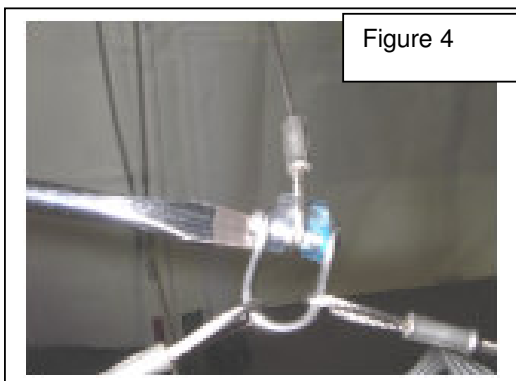

Figure 4
6. Undo trimmer wire shackle. See figure 4.